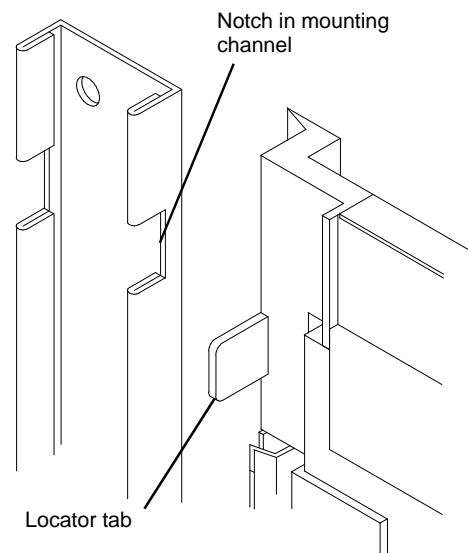

Figure 4
4. To facilitate positioning the panel within the Frame, align the locator tab on each corner of the panel with the appropriate notch in the Mounting Channel. See **Figure 4**.